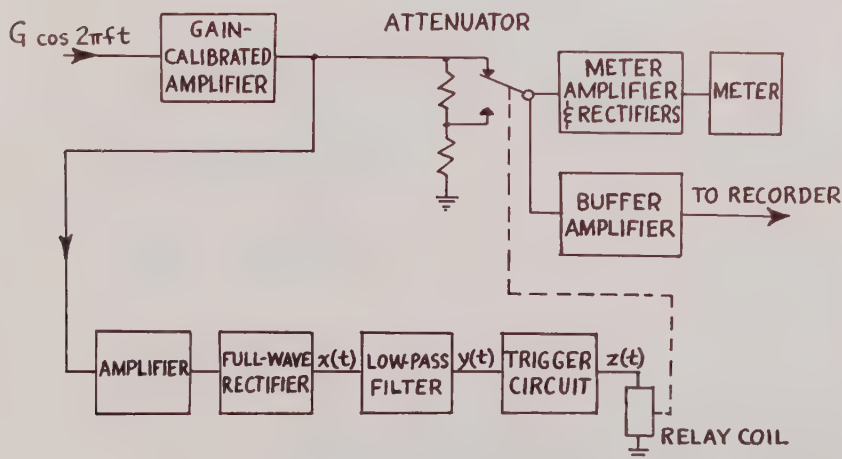

FIGURE 1
A simple two-range automatic range-selecting amplifier is shown in Figure 1 in block diagram form. A sinusoidal signal from an accelerometer is applied to the gain-calibrated amplifier. The gain-calibrated amplifier feeds the signal to the two-step attenuator and also to a full-wave rectifier. The dc component at the output of the full-wave rectifier is recovered by a low-pass filter and is applied to the trigger cir-
Also of interest to the vibration test engineer is the amount of data actually lost while the instrument is switching from one range to the other. This can be evaluated from Eq. (9) if one interprets T as the relay switching time, that is, the time that the relay arm is between contacts in Figure 1. For $Q=50$, a relay switching time of 3×10^{-3} seconds, and $d\Theta/dt = 76.5$ degrees/min. the amplitude changes at most by the amount given in the following relation during the time the relay is not making contact.
A commercially available instrument should contain more than two automatically-selectable ranges. The difference between a multi-range instrument and the one diagrammed in Figure 1, is that the multi-range instrument contains more than one switching circuit and a more complicated relay switching network. Usually, means are also included for providing an output code for determining which range of the instrument is actually in operation at any particular time.